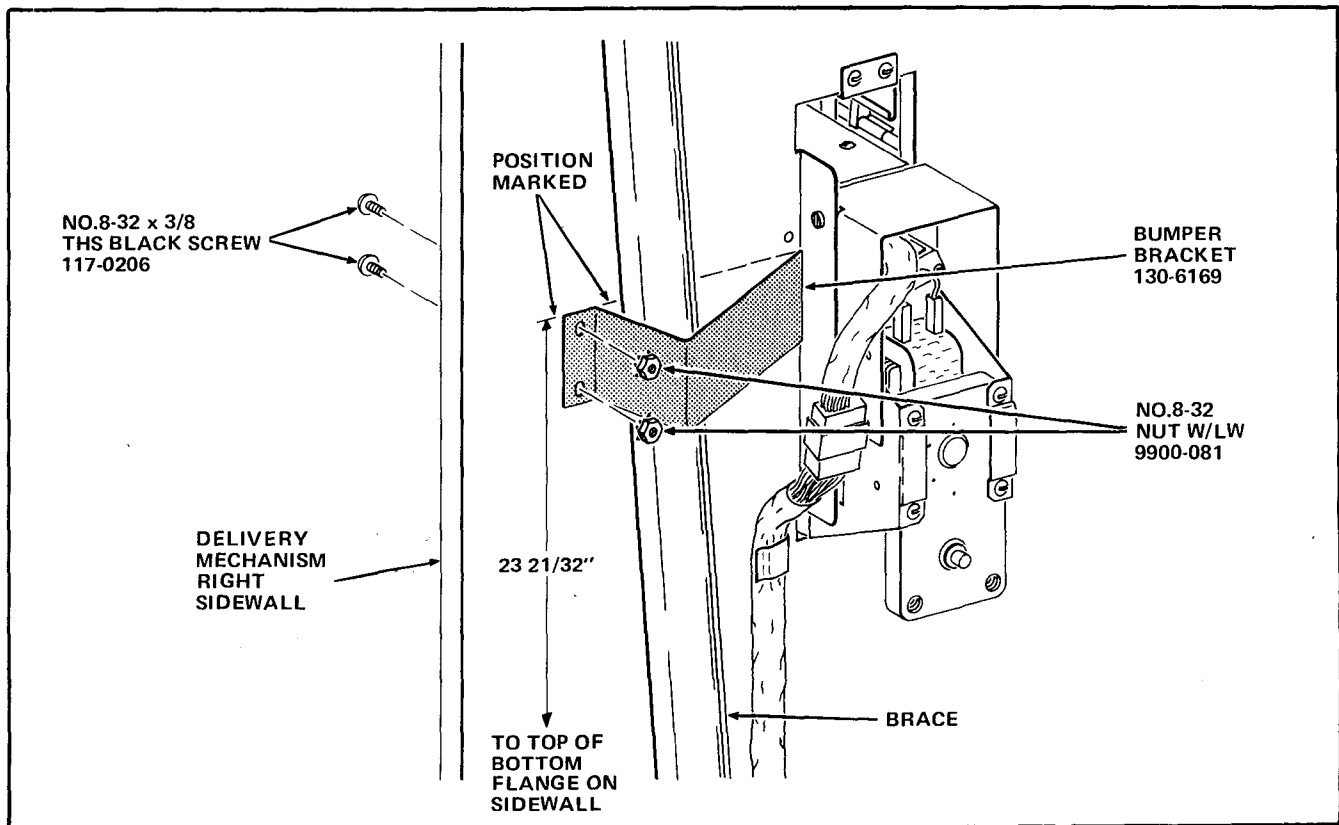

FIGURE 1
6. At the front part of the Delivery Mechanism Right Sidewall measure 23 21/32" up from the top of the bottom flange of the Sidewall. Mark the 23 21/32" position on the Sidewall. See Figure 1.
13. Install the Bumper Bracket and attach it with the two No.8-32 x 3/8" Truss Head Slotted Screws (Black), part number 117-0206, and two No.8-32 Nuts/Lockwasher, part number 9900-081. The Nuts are to be to the outside of the Delivery Mechanism. See Figure 1.